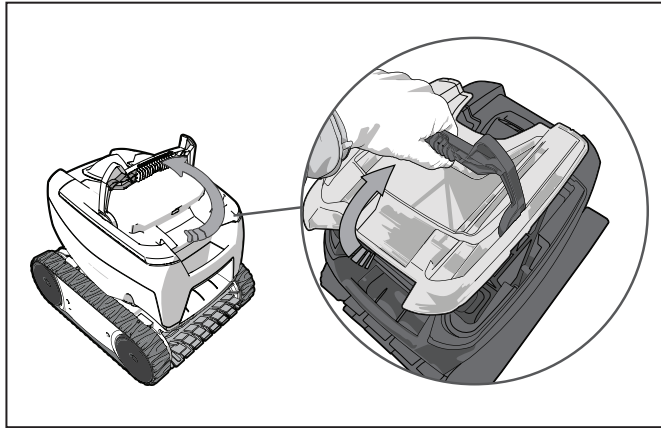

Figure 9. Release Filter Canister Handle
2. Pull up to release the filter canister handle (Figure 9).